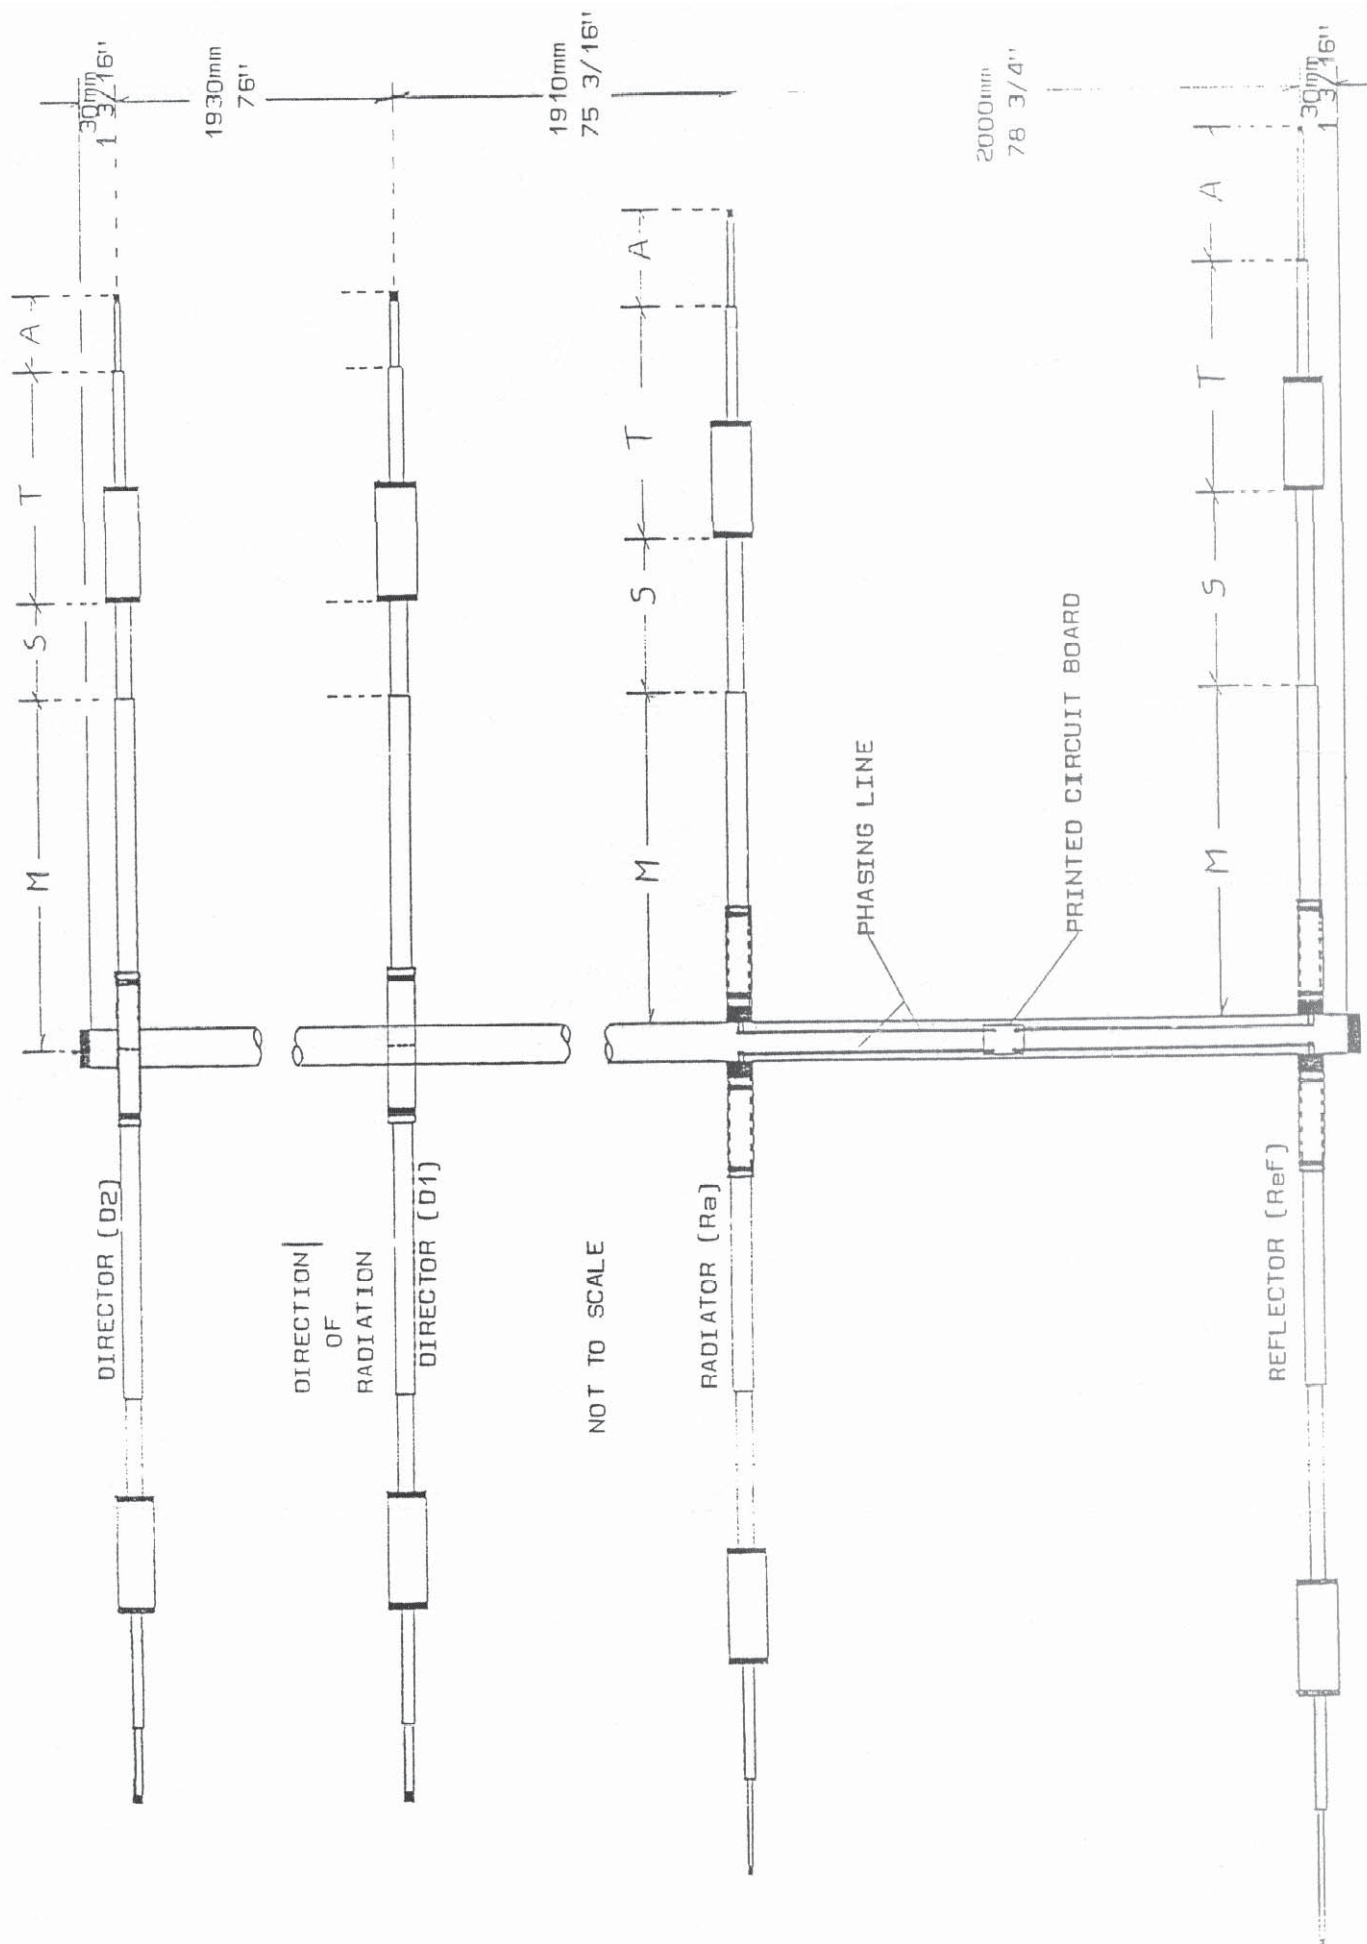

FIGURE 2
3.3 Refer to Figure 2 Using a felt tipped pen, place marks on the boom where the clamps holding the various elements are to be attached. Measurements are made beginning 30mm from the inside edge of one boom end cap.
4.1 Identify parts for four elements. All are identified as D2, D1, Ra or Ref. Refer to Figure 2 and Table 1 for element length.